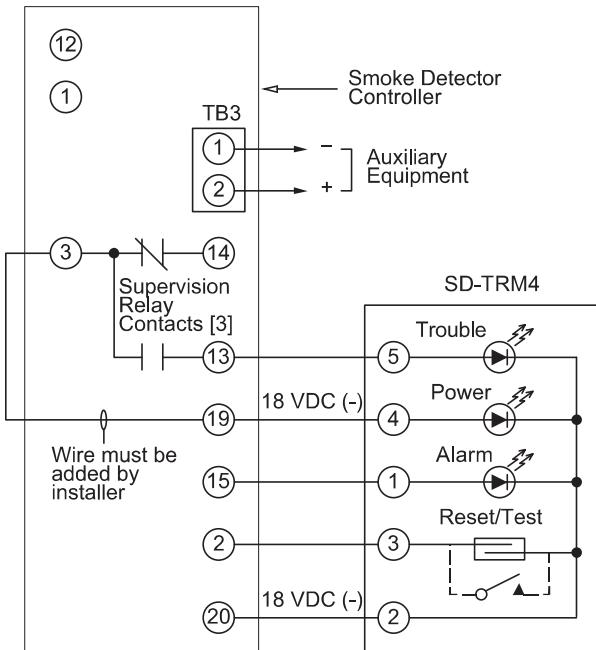

Fig. 44 – Remote Test/Reset Station Connections
The test/reset station dirty sensor test checks the test/reset station's ability to initiate a sensor dirty test and indicate the results. It must be wired to the controller as shown in Fig. 44 and configured to operate the controller's supervision relay. For more information, see "Dirty Sensor Test" on page 22.
1. Verify that the remote test/station is wired as shown in Fig. 44. Repair or replace loose or missing wiring.